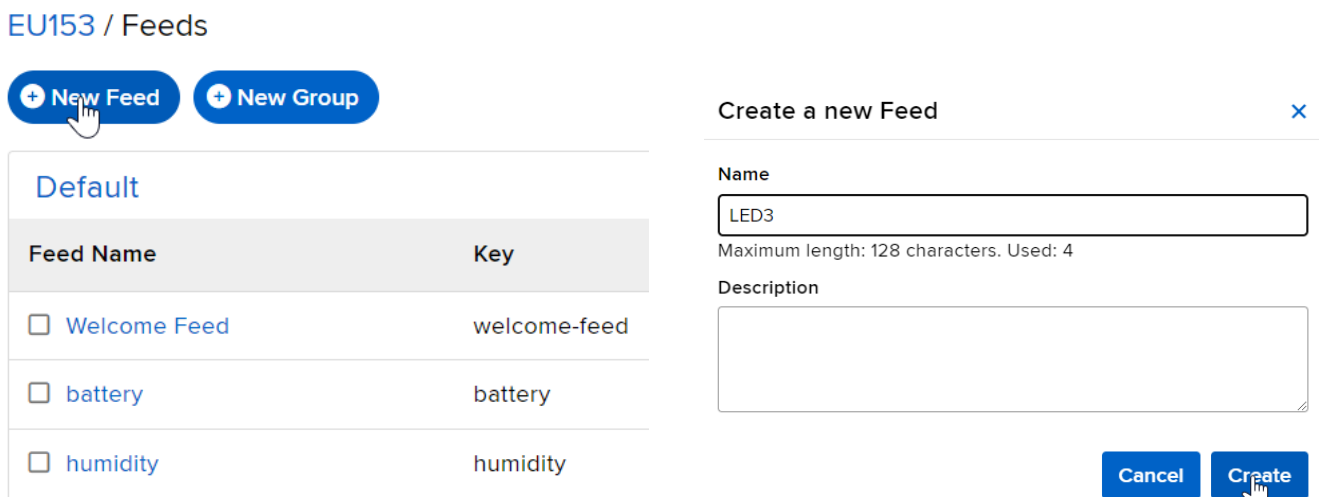

Figure 10. Create LED3 Feed
2. To control LED3 on the board you have to create new “username/Feeds/LED3” feed manually (Figure 10):